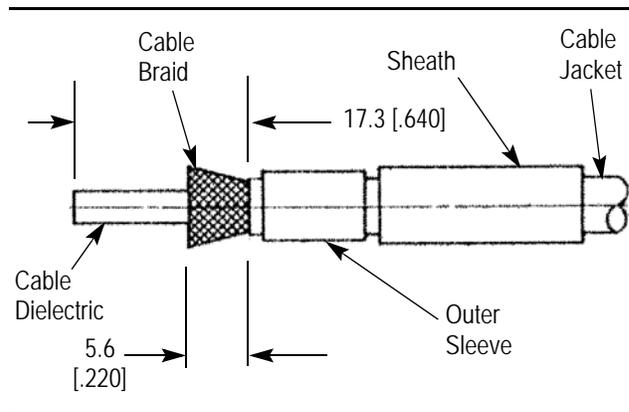

Figure 2
3. Trim the cable braid to the dimension specified in Figure 2.